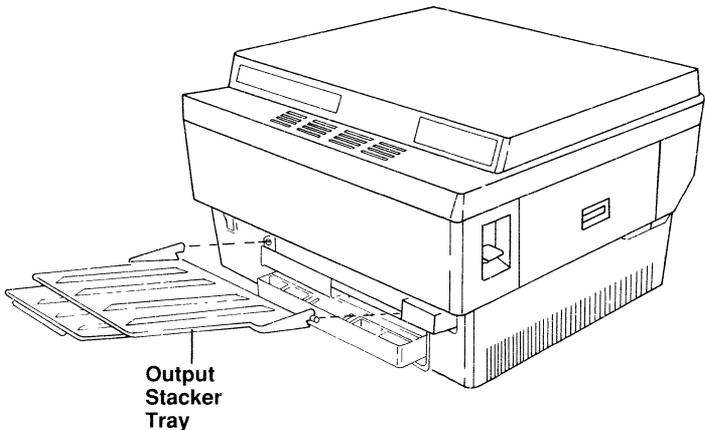

Figure 8: Installing the Print Tray
1. Locate the print tray and move to the front of the printer. Hold the tray so that the wide end is toward the front of the printer and the sliding extension is underneath (the end corner of the sliding extension should point down). Taking one side at a time, insert the installation nubs into the slots directly above the front handle of the printer. (See Figure 8.)